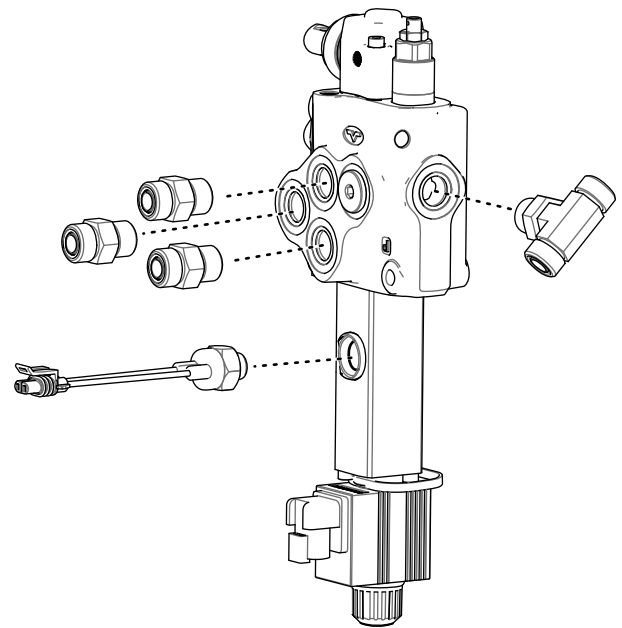

Figure 13
8. Remove the plug from the side of the new auxiliary valve and thread the ball switch into the port (Figure 13).
4. Install the 3 straight fittings to the 3 side ports (Figure 13).
6. Hand tighten the tee fitting, then orient the ends at a 45-degree angle as shown in Figure 13.